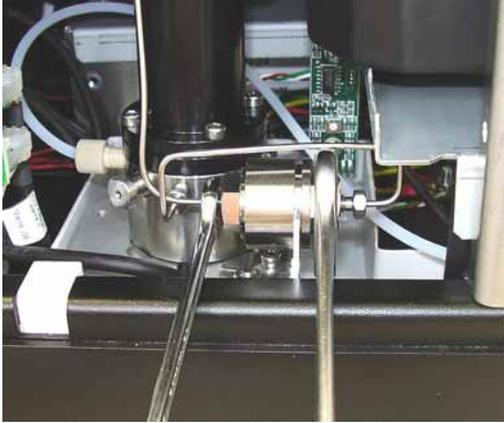
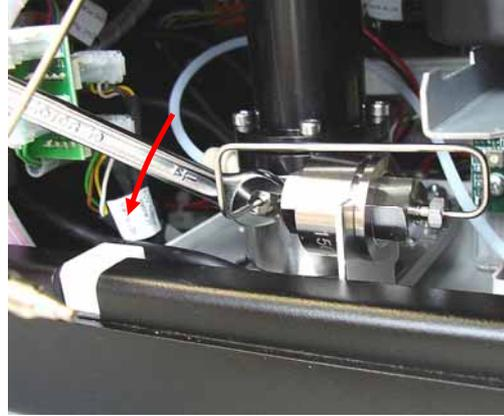

Fig. 11: Unscrew the prefilter connector
Fig. 12: Unscrew the FCV high-pressure connector
- a) *Prefilter installed:* Use the wrench (size ¼“) for high-pressure fitting screws to unscrew the connection between the flow splitter and the prefilter, while steadying the prefilter nut with a 13 mm wrench (Fig. 11). Then unscrew the connection between the prefilter and the FCV high-pressure connection, using the ¼“ wrench again (Fig. 12). Put the prefilter aside in a clean place.